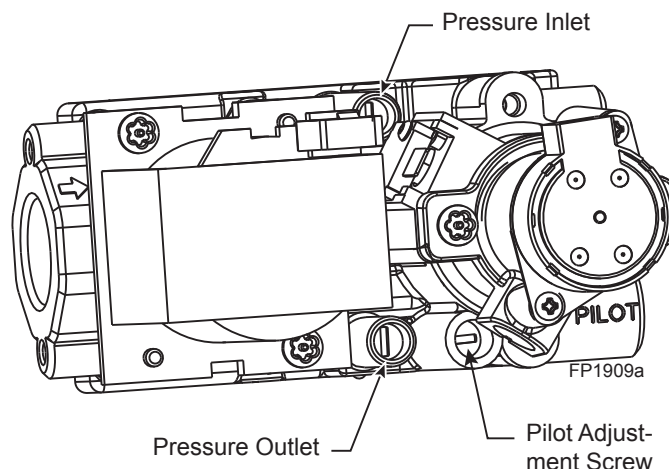

Figure 38 -
4. To check gas pressures at valve, turn captured screw counter clockwise 2 or 3 turns and then place tubing to pressure gauge over test point. Turn unit to high. *Figure 38.* After taking pressure reading, be sure and turn captured screw clockwise firmly to reseal. Do not over torque. Check test points for gas leaks.